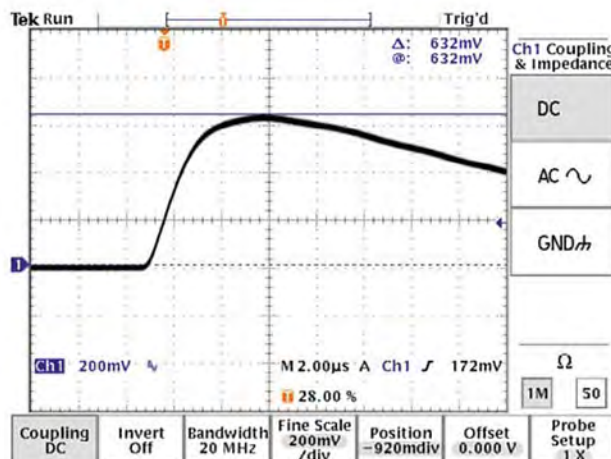

Figure 2
8. Adjust the “time base” of the scope to show a single EnergyMax pulse and then focus on the leading edge to accurately read the peak voltage (see Figure 2).